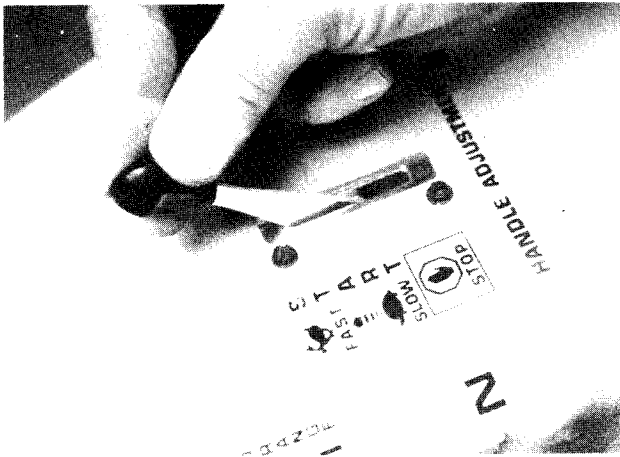

FIGURE 25.
B. Start—Push throttle control lever forward (down) to start position. See figure 25.
2. Place the throttle control lever in **FAST** position. See figure 25.